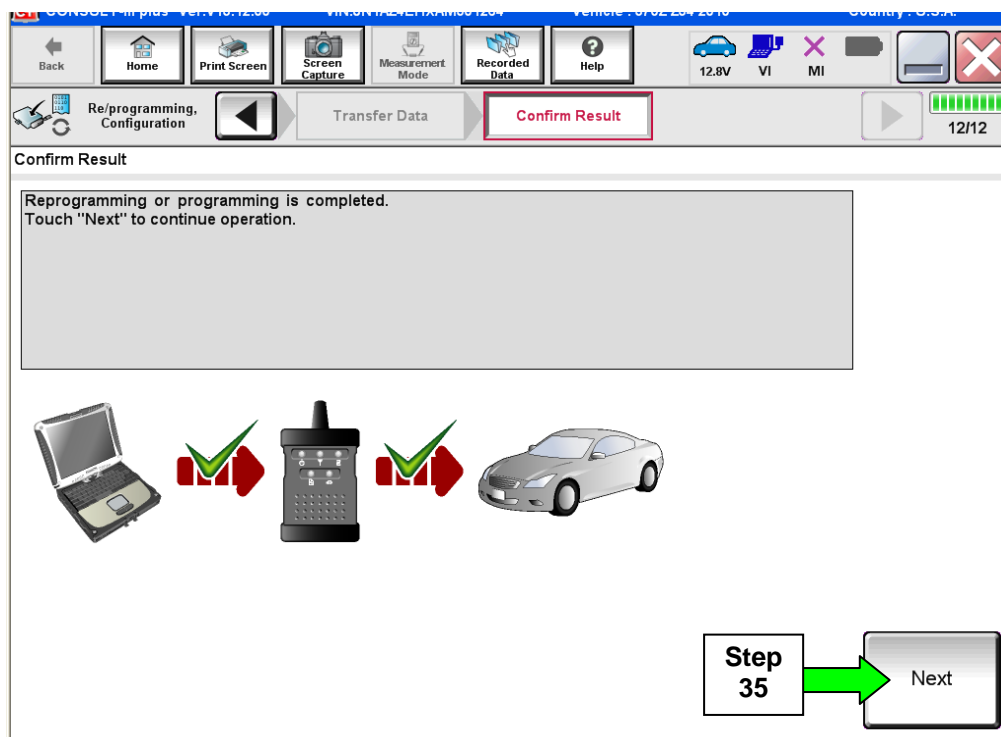

Figure 19
33. When the screen in Figure 19 displays, the reprogramming is complete.
NOTE: If the screen in Figure 19 does not display (reprogramming does not complete), refer to the information on the next page.